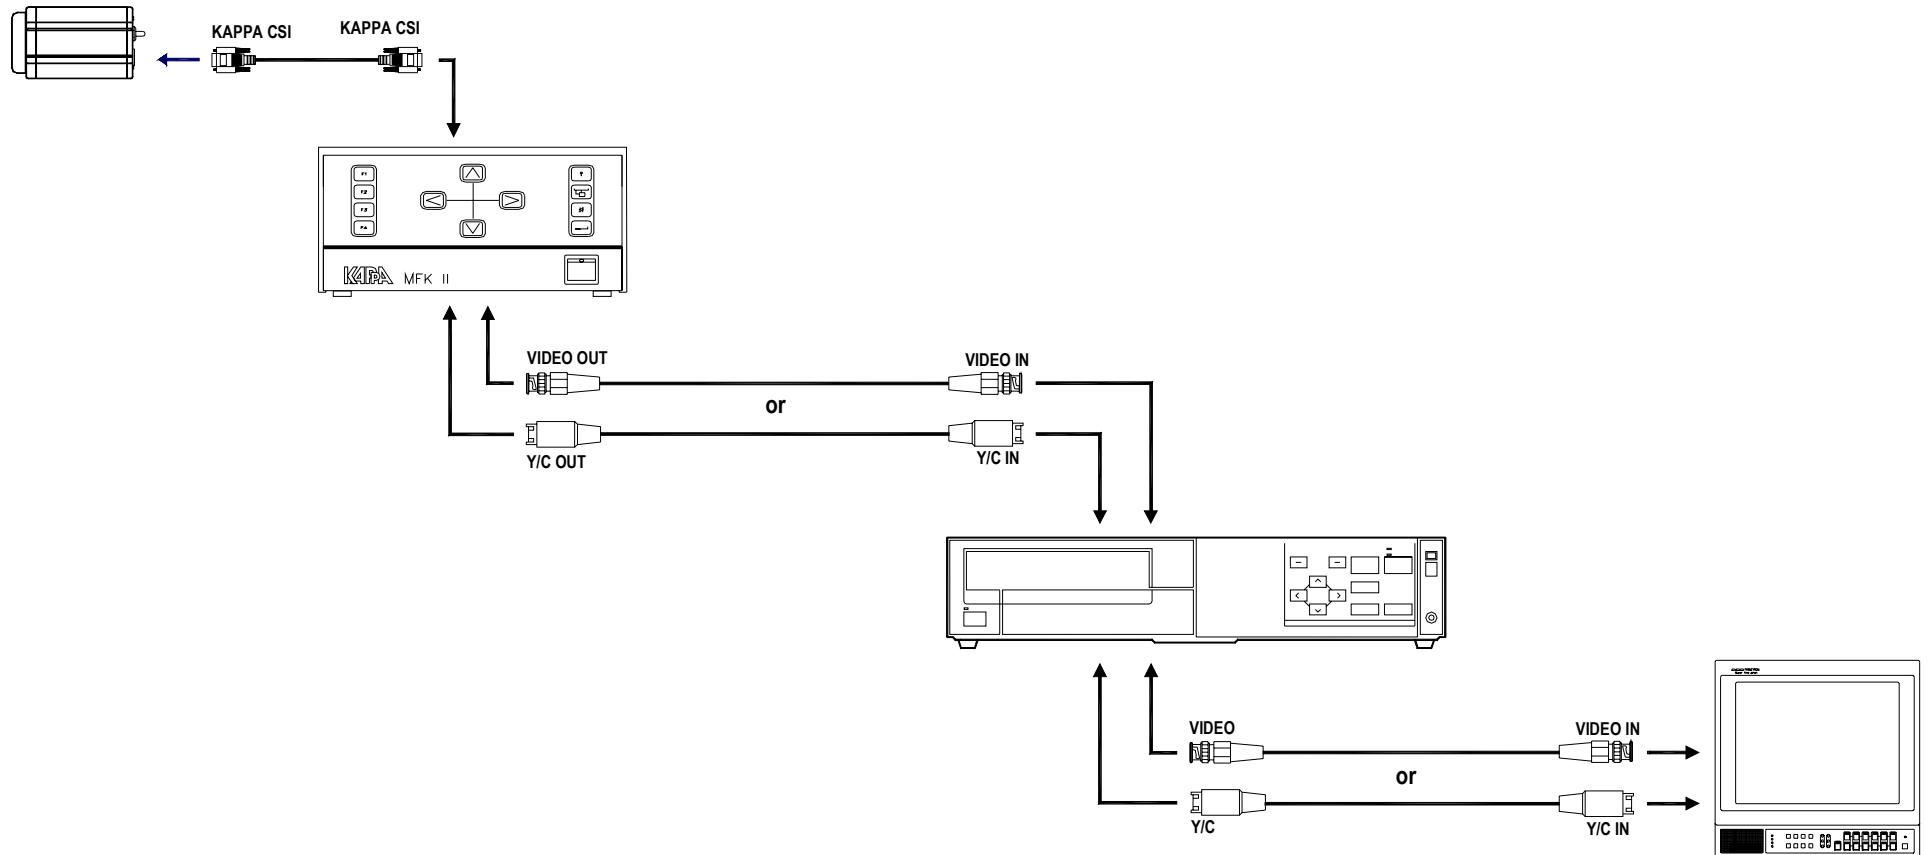

Fig. 3: CF 142, CF 143 and CF 144, MFK II, Video Printer and Monitor
- Camera; camera supply cable; measuring system; video cable; video printer; video cable; monitor (fig. 3).
If you use a KAPPA measuring system a separate camera power supply is not necessary because it is already integrated into the measuring system. For a detailed description please see the operating manual of the corresponding measuring system. A connection example is shown in fig. 3.
The image taken with the camera can be processed in many ways. Fig. 3 shows the connection to another video instrument. This can be a video recorder, a video printer or a KAPPA measuring system.